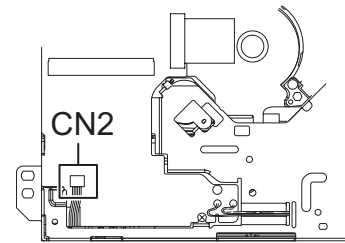

Fig.4
- (5) From the bottom side, disconnect the connector wire from Top cover assembly connected to connector **CN2** of the Front end board. (See Fig.4)